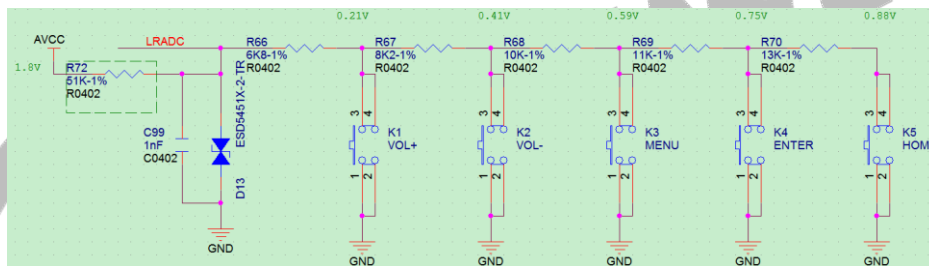

Figure 2-51 Key Circuit Design
- Select the number of LRADC keys and increase or decrease them according to the requirement of the product. The voltage acquisition range of LRADC is 0 to 1.266 V. In the design, please ensure that the voltage interval between each key value is greater than 0.2 V. The precision of the division-voltage resistor must be 1%. As shown in Figure 2-51.